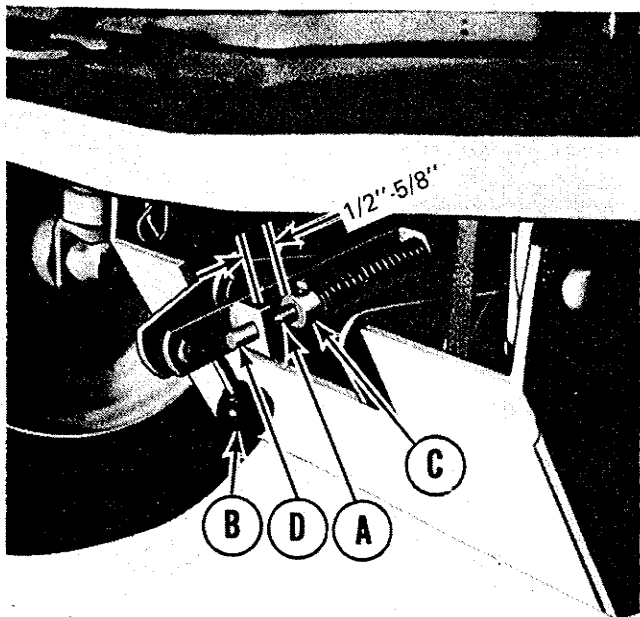

Figure 12. Belt tightening adjustment located on front hitch assembly.
11. Check the distance between the set collar and rod guide shown in figure 12. If the distance is not 1/2" - 5/8" adjust the belt tension as explained on page 6 of this manual.
See figure 12. Tension on the mower drive belt is checked by
1. See figure 12. Release tension on the drive belt by pulling forward and up on the belt tightening handle (B).
2. See figure 12. Loosen the screw in set collar (C) and pull the rod (D) ahead so more of it is exposed to increase belt tension or push the rod back to decrease belt tension.
3. Tighten the screw in set collar (C).
4. Tighten the belt and check the belt tension distance (figure 12, item A).
- a. Pull the belt tightening handle (figure 12, item B) forward to release belt tension